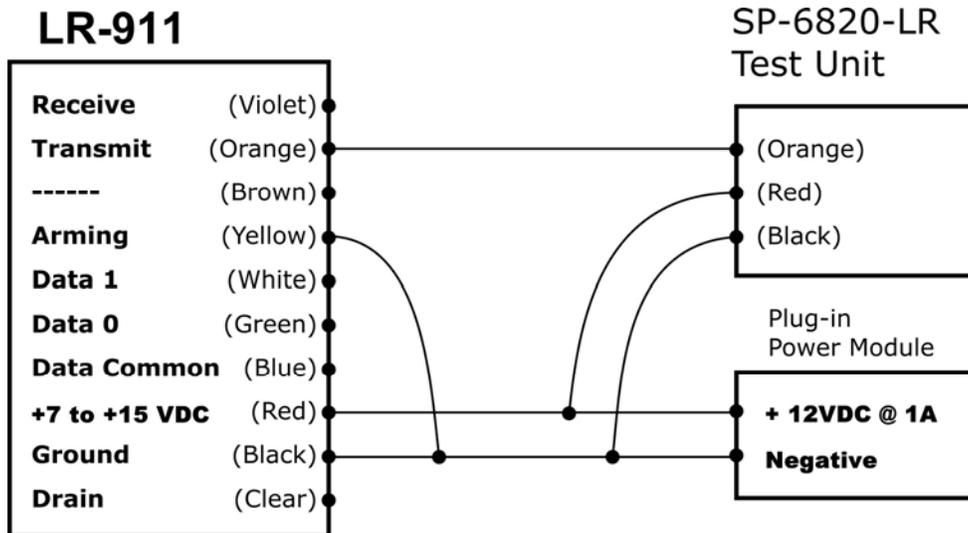

Figure 2. Wiring for quick test.
- Wiring diagram, Figure 2 (below)
- Connect the wires as shown in the wiring diagram, Figure 2 (below).
This step should be taken before the tags are installed in or on the vehicles. From the LR-911KIT Test & Set-up Kit, use the test unit, and one of the hand-held test tags, and the wiring diagram in Figure 2 on page 6. The reader does not have to be interfaced with the host system (but they *may* be connected together). Use the DC power module from the LR-911KIT Test & Set-up Kit *only* if the independent DC power supply is not yet connected.